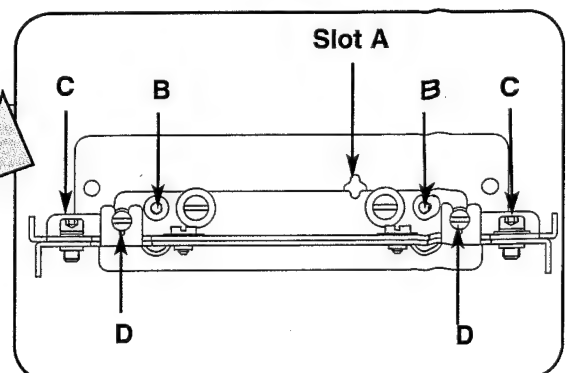

**Fig.10-2**
- 2) If the un-uniform color appears on the top or bottom of the screen as shown in **Fig.10-2**, loosen 2 screws "C" with hex driver (**Fig.9**) and adjust the 2 screws "D" to make color uniformity in cyan.